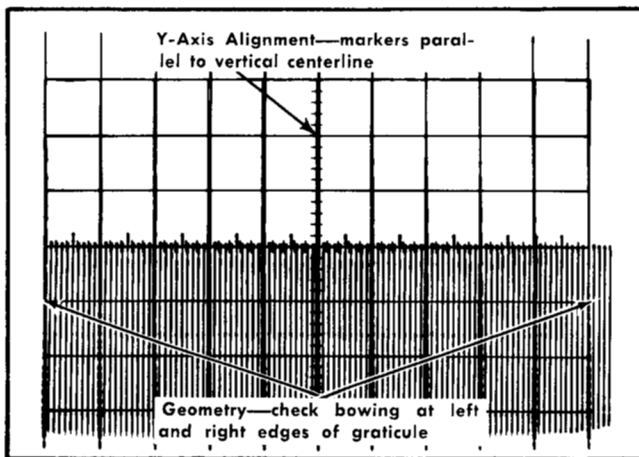

Fig. 5-1. Typical crt display showing good geometry and y axis alignment.
- Check—Bowing and tilt of markers over entire display area not to exceed 0.15 division (see Fig. 5-1).